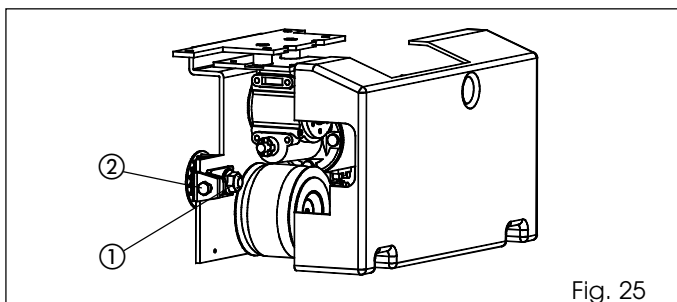

Fig. 25
- Loosen the nut (fig. 25 ref. ①).
- Screw the bolt of fig. 25 ref. ② to exert tension on the belt or unscrew it to slacken the belt.
- When you have adjusted tension, tighten the nut (fig. 25 ref. ①).